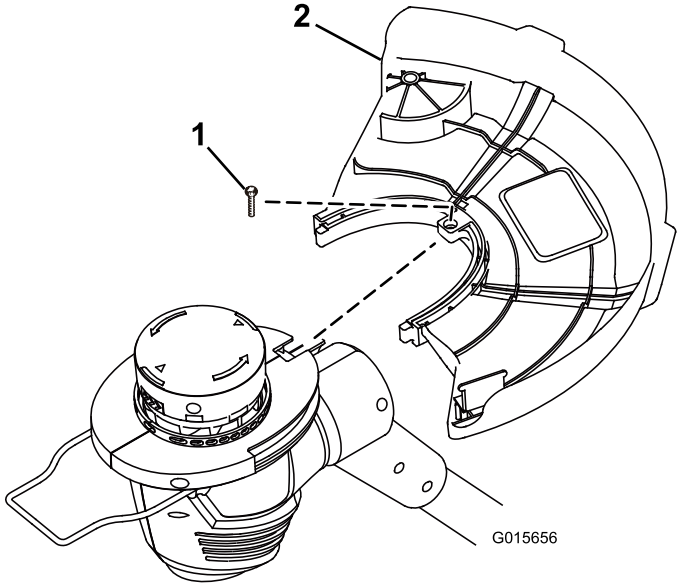

Figure 2
- 1. Slide the guard onto the trimmer base as shown in Figure 2.